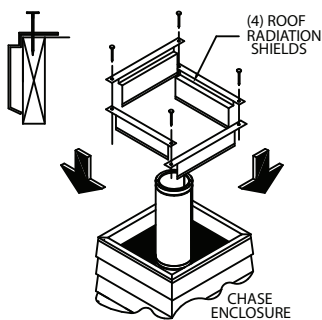

Figure 11
**11. Install Roof Radiation Shields:** Roof Radiation Shields provide protection for roof or chase framing members. **Note: Roof Radiation Shields do not allow for a reduced clearance to combustibles.** Clearance to combustibles must be a minimum of 2-inch away from the chimney pipe. Install Roof Radiation Shields at either the top of the chase or where the chimney penetrates the roof, whichever is the top of the installation. Roof Radiation Shields are built with a 1/2-inch air gap standoff from the joist face (**Fig. 11**). The corners of the Roof Radiation Shields overlap each other to ensure proper position. Secure the Roof Radiation Shields to the top of the framing members using screws or nails in the corners (**Fig. 11**). If framing members are further away from the chimney than 2 inches, center the Roof Radiation Shield to the chimney on the framing member and secure in place with screws or nails.